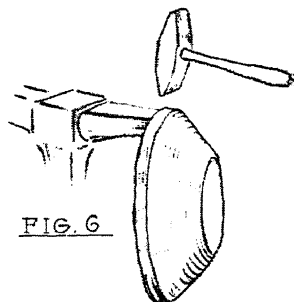

FIG. 6
10. Shrink the diameter to  $5\frac{1}{2}$  inches (Fig. 6).